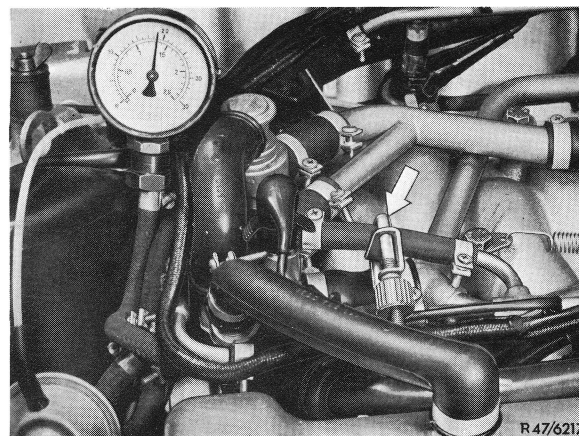

Fig. 2
a) Check starting valve, then switch on ignition and disconnect fuel hose on starting valve (arrow in Fig. 2).